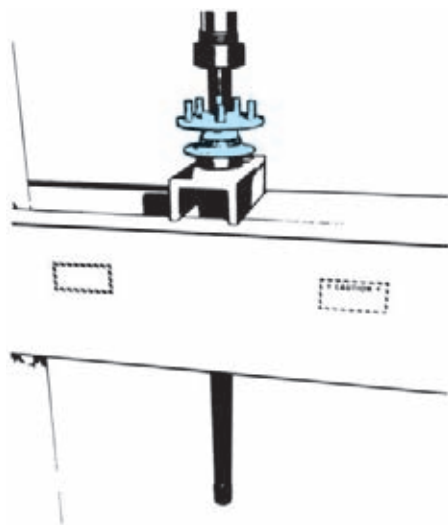

FIGURE 12-41 The axle is being pressed into the bearing and retainer plate. (Courtesy of OTC Tools)
2. Place the bearing on the axle and press the axle into the bearing to the correct position (Figure 12-41).